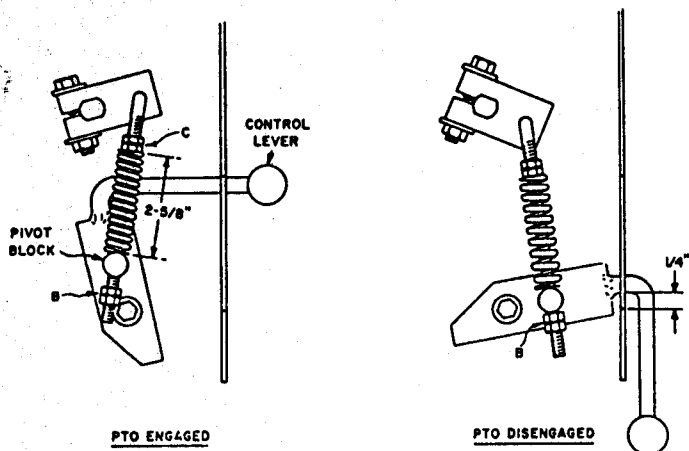
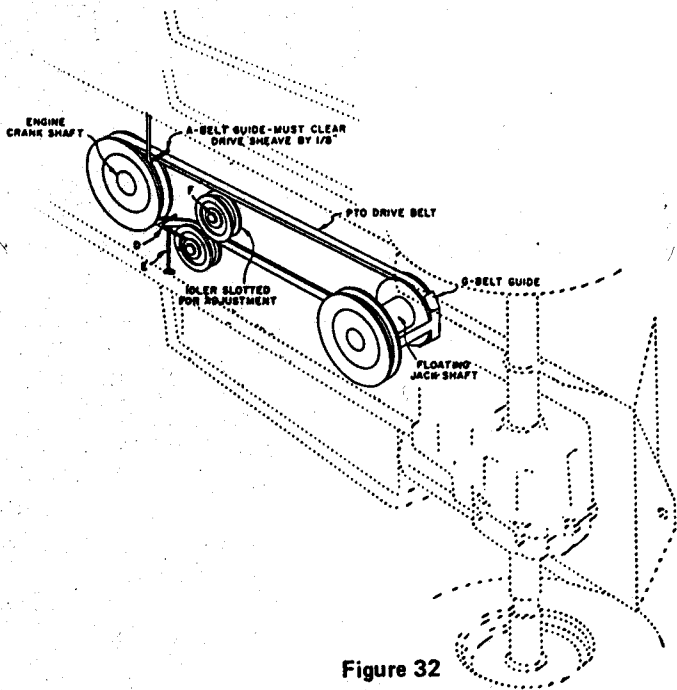

Figure 31
Figure 32
The PTO drive belt should be adjusted before the rear nuts B, Figure 31, contact the pivot block when the implement power clutch is engaged or if the belt begins to slip.
1. Engage implement power clutch and tighten nuts C, Figure 31, until the spring length is 2-5/8".
2. Position belt guides D and E, Figure 32, across from one another when the clutch is disengaged in such a manner that the belt is retained in the disengaged position. In addition, guide D must clear the engine sheave by 1/8" as the clutch is moved from the disengaged to the engaged position. Move guide D rearward if necessary to obtain this clearance.
3. With clutch disengaged, tighten nuts B, Figure 31, to obtain 1/4" clearance between the implement power clutch lever and rear of slot in the tractor frame.
If after adjustment, the rear nuts B, Figure 31, contact the pivot block when the clutch is engaged, loosen bolt F, Figure 32, and move the idler closer to the belt to provide additional adjustment. Repeat the complete adjustment sequence if it becomes necessary to move the idler.
PTO DRIVE BELT - (Figure 32)